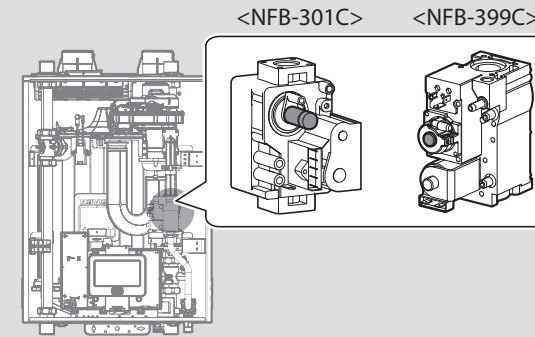

Figure 7. Set Screw Location
- c. Activate multiple zones and set the boiler to operate at 1Step MIN mode. Measure the CO₂ value at low fire. If the CO₂ value is not within 0.5% of the value listed in Table 2, the gas valve set screw will need to be adjusted. If adjustment is necessary, locate the set screw as shown in Figure 7. Using a Allen or Star Wrench, turn the set screw no more than 1/4 turn clockwise to raise or counterclockwise to lower the CO₂ value.